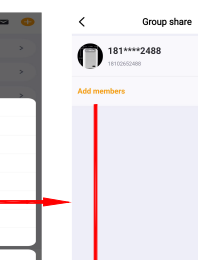

Figure 23
- (3). Group sharing can authorize other members to operate the equipment. Click [add members] and fill in the information of the authorizer. Group members have [admin] and [member] (Figure 23 / 26).